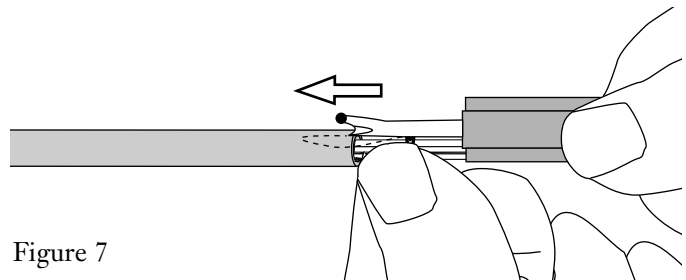

Figure 7
- Use a seam ripper to make a starter notch in the end of the outer jacket (Figure 7). Use care to avoid damaging the cable sub-units.